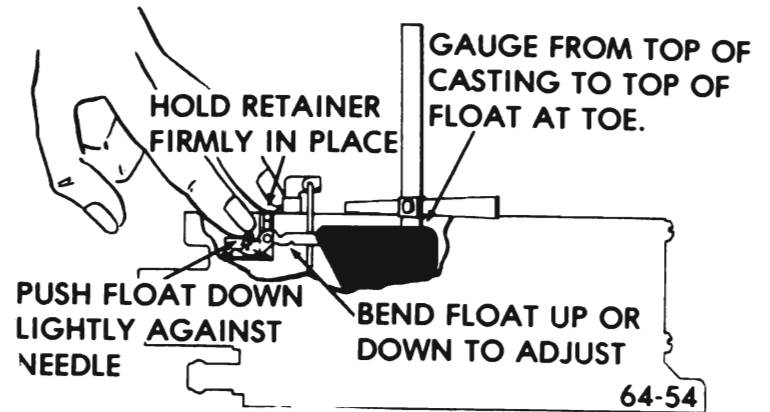

Figure 64-53 Float Level Adjustment
a. With adjustable "T" scale, measure from the top of float bowl gasket surface (gasket removed) to top of float at toe (locating gauge 1/16 back from radius at toe). See Figure 64-53.